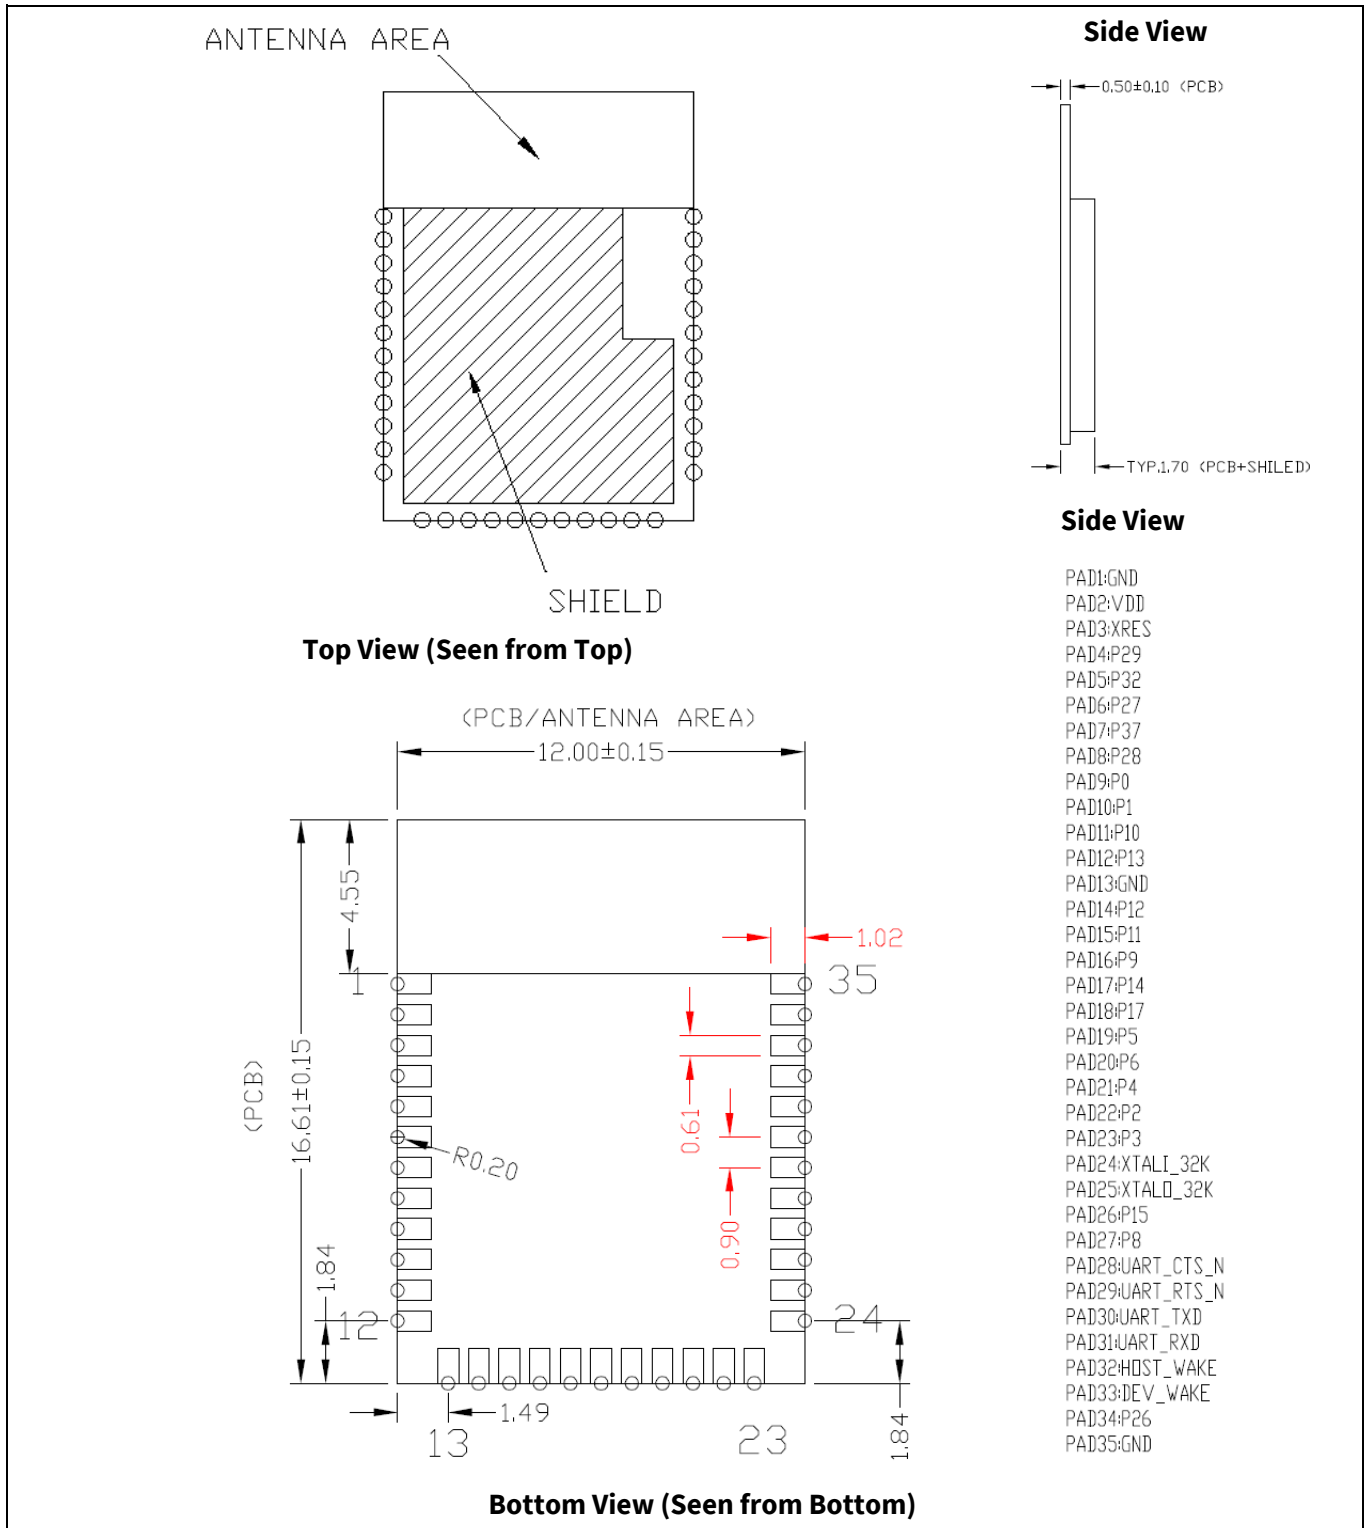
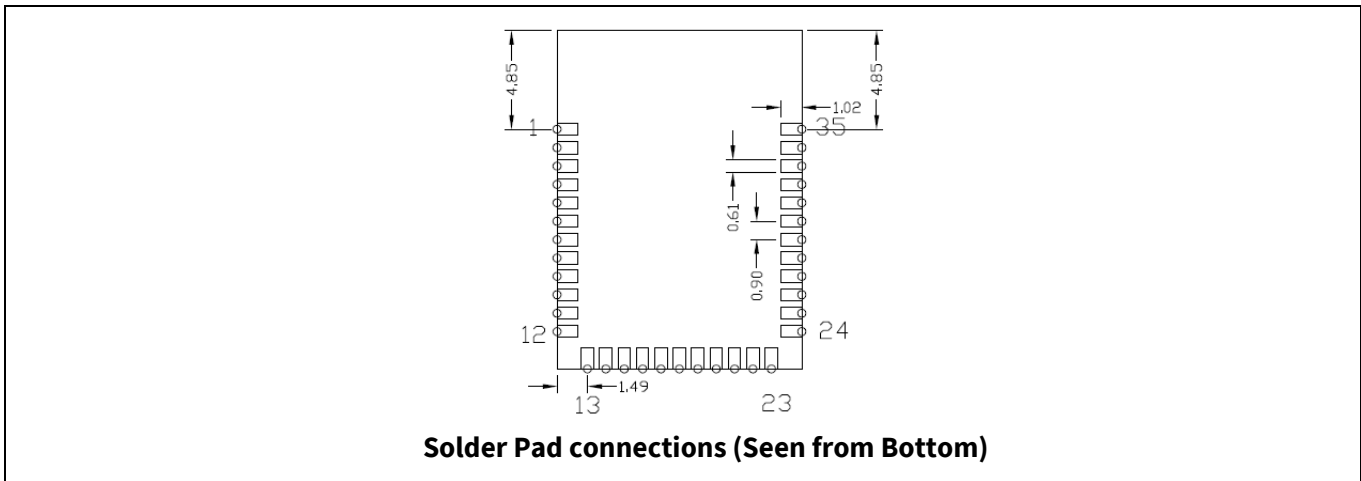
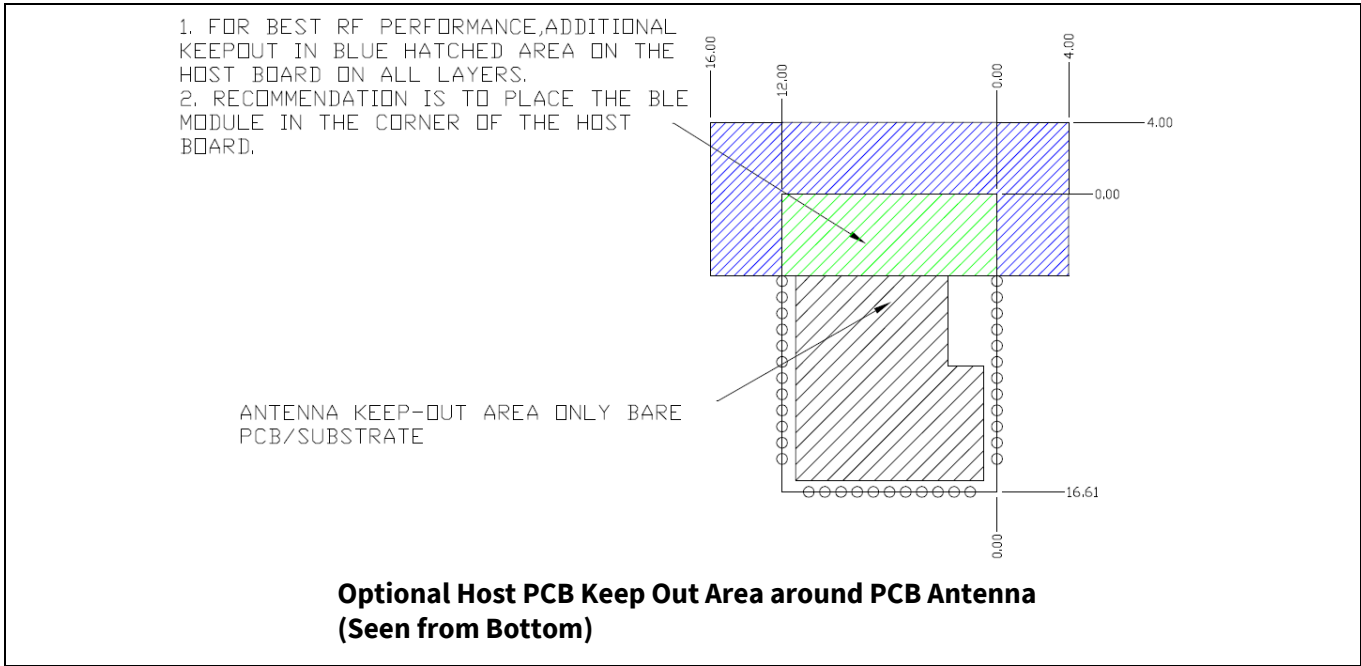

Figure 2 Module mechanical drawing
Figure 3 Solder Pad dimensions (Seen from Bottom)
Figure 4 **Optional Additional Host PCB Keep Out Area around the CYBT-213043-02 PCB Antenna**
Infineon reserves the right to select components from various vendors to achieve the Bluetooth® module functionality. Such selections will still guarantee that all mechanical specifications and module certifications are maintained. The CYBT-213043-02 will be held within the physical dimensions shown in the mechanical drawings in Figure 2. All dimensions are in millimeters (mm).
See Figure 2 for the mechanical reference drawing for CYBT-213043-02.
As shown in the bottom view of Figure 2, the CYBT-213043-02 has 28 connections to a host board via solder pads (SP). Table 2 and Figure 3 detail the solder pad length, width, and pitch dimensions of the CYBT-213043-02 module.
1. Antenna Area Keepout: The host board directly below the antenna area of the Infineon module (see Figure 2) must contain no ground or signal traces. This keep out area requirement applies to all layers of the host board.
2. Module Placement: The ideal placement of the Infineon Bluetooth® module is in a corner of the host board with the PCB antenna located at the far corner. This placement minimizes the additional recommended keep out area stated in item 3 below. Refer to AN96841 for module placement best practices.
3. Optional Keepout: To maximize RF performance, the area immediately around the Infineon Bluetooth® module PCB antenna may contain an additional keep out area, where there are no grounding or signal traces. The keep out area applies to all layers of the host board. The recommended dimensions of the host PCB keep out area are shown in Figure 4 (dimensions are in mm).